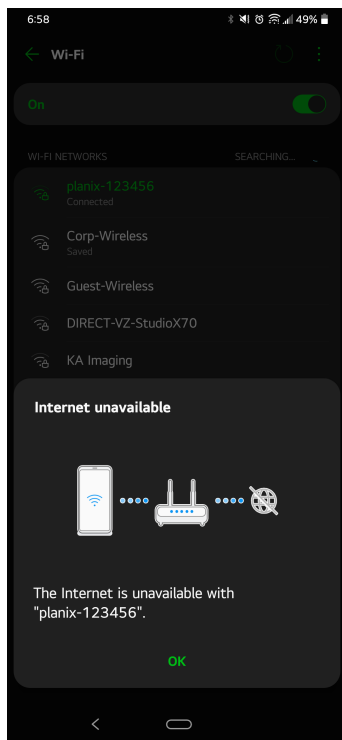

Figure 8 - Internet unavailable (on Android)
2. Select the “planix-xxxxxx” Wi-Fi network on your smart device. The Wi-Fi password is the serial number as printed on the product label found on the base of the system. You may receive a message on your smart device which says that the internet is unavailable upon connecting (see figure 8); this is normal. PLANIX Wi-Fi access point does not provide or require an internet connection.